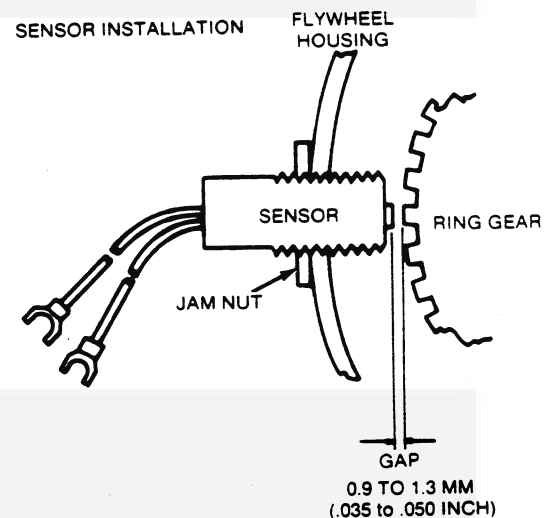

FIGURE 16. SPEED SENSOR ADJUSTMENT
Adjust magnetic pick-up sensor, located on the flywheel housing (Figure 16) as follows:
4. Back sensor out 3/4 turn and tighten "jam nut" (Figure 16). [The gap between the sensor and the gear tooth should be 0.9 to 1.3 mm (0.035 to 0.050 inch).]